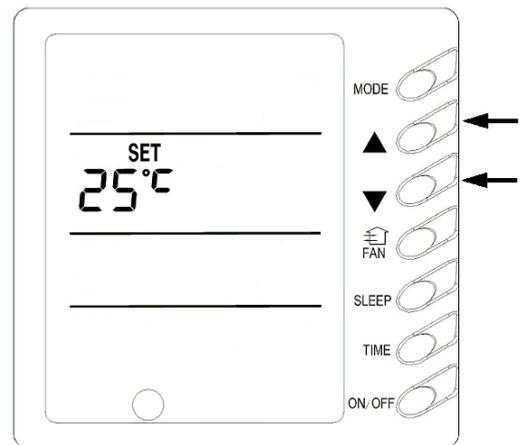

Fig.4
**3 ) Setting Temperature (Fig.4)**